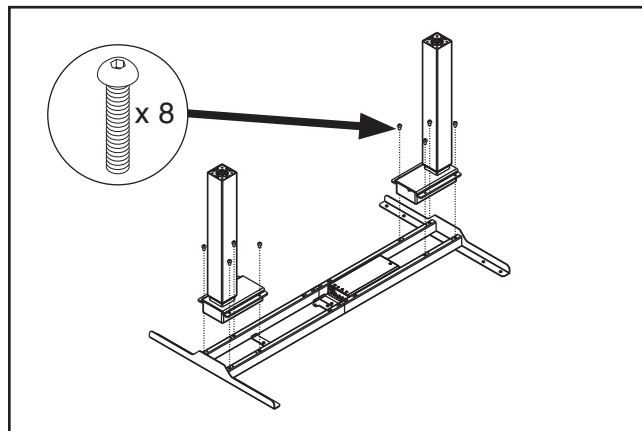

Figure 4. Attaching lifting columns.
2. Insert lifting columns into ends of support beams and secure with (8) M6-1 x 12 button head cap screws (see **Figure 4**).